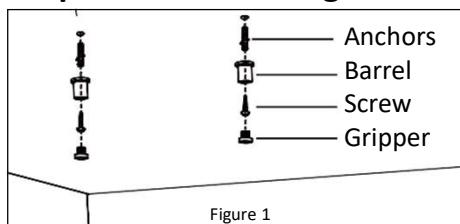

Figure 1
- Locate the suspension mounting kit. Unscrew the Gripper from the Barrel. **See Figure 1.**